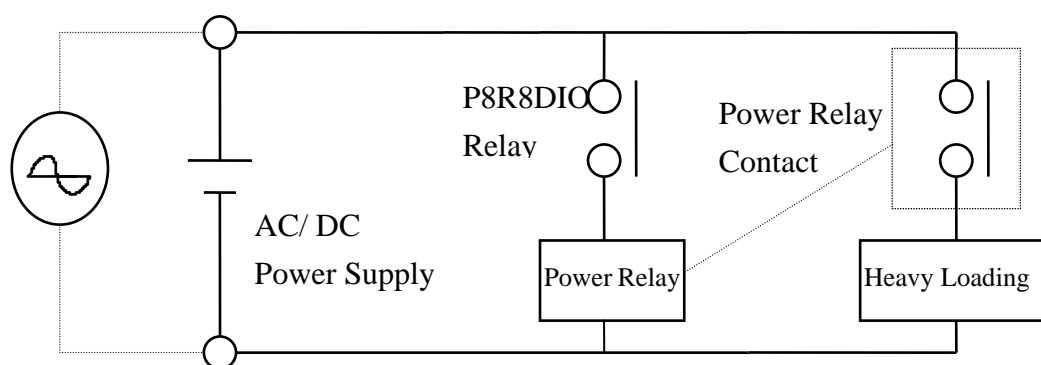

Figure 3-2.
- **Heavy Loading Application (> 0.3 A), Refer to Figure.3-2.**